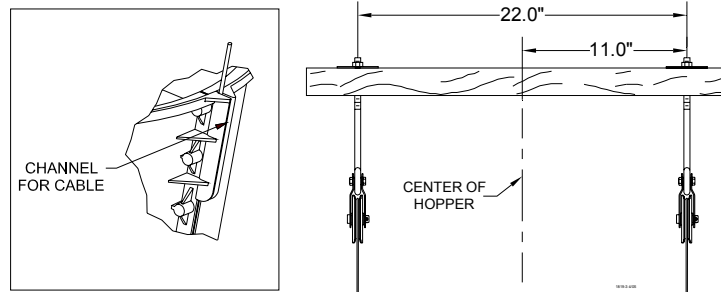

Figure 19.
7. Install two pulleys to either a 2" x 8" [50x200 mm] board that will span at least 3 rafters or a 3/8" [9.5 mm] thick steel plate welded to two pieces of angle iron that are long enough to span at least 2 rafters. Install the pulleys directly above the feeder line where the hopper is to be located. The pulleys should be spaced 22" apart (11" from the center of the hopper in both directions). **See Figure 19.**